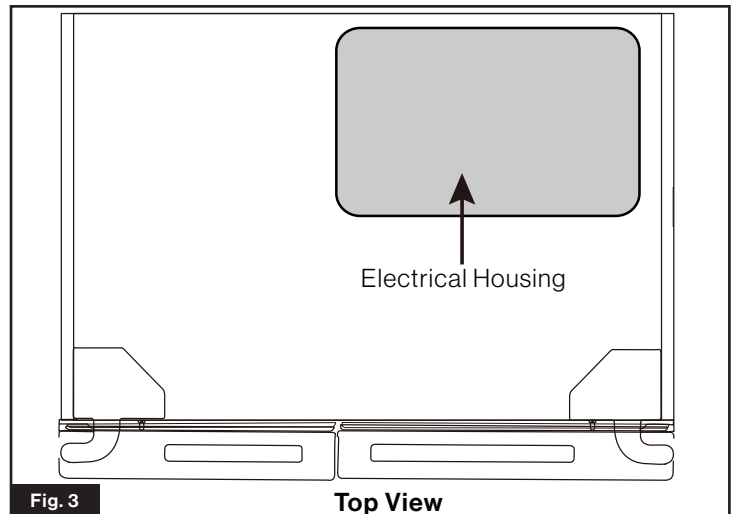

Fig. 3
- If restraints are used to mount or contact the top surface of the appliance, avoid contact with the gray plastic electrical cover to prevent damage. (Fig. 3)